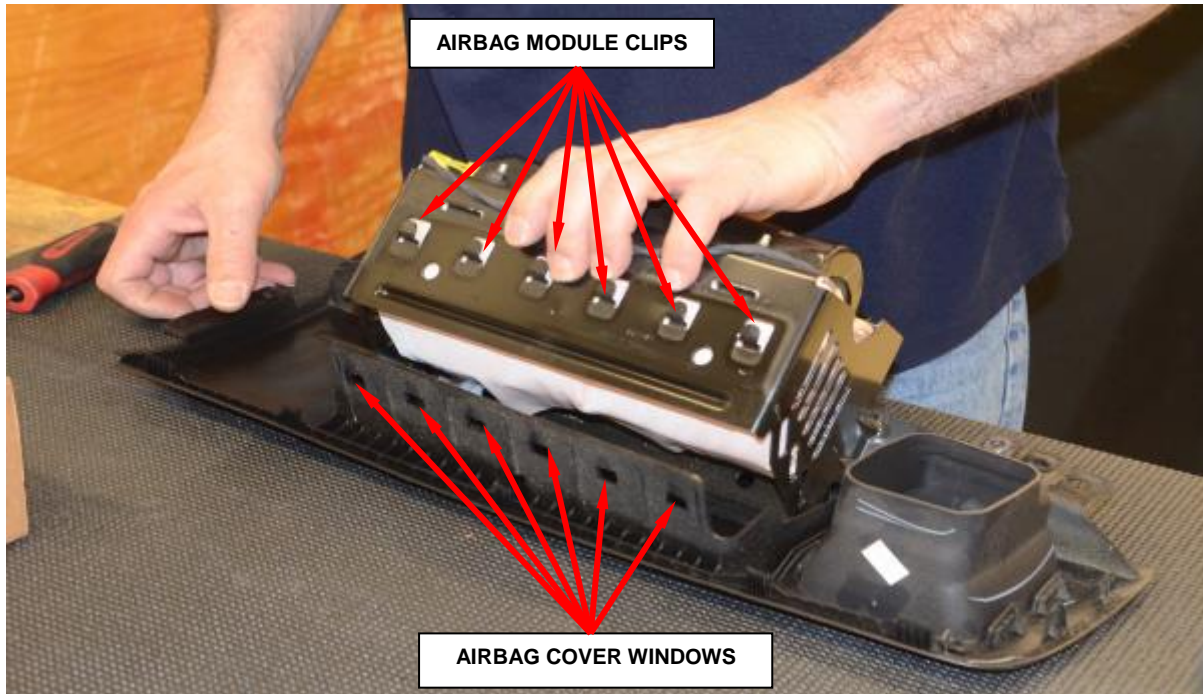

Figure 22 – Airbag Cover Clips
- g. Disengage the airbag module clips from the airbag cover windows on all sides (Figure 22).